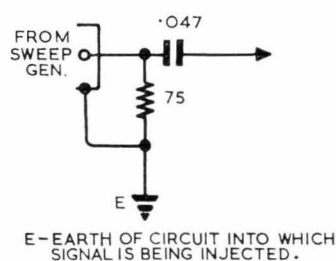

FIG. 3.
To align the vision IF amp, a sweep generator and a marker generator, both covering the range 28.5 to 38.5 Mc/s. are required, together with a display unit. The marker generator may be a signal generator and the display unit a C.R.O. These instruments should be interconnected as described in the instructions supplied with the sweep generator. The sweep generator should be terminated with a resistor equal to its output impedance and connected to the receiver as shown in Figure 3.
- (1) Connect the sweep generator via the network in Fig. 3 to pin 2 of V5. Adjust the slug in the IFT3 to peak response at 34 Mc/s. (Slug in position furthest from chassis) and L27 (slug nearest chassis) to achieve a symmetrical response as shown in curve "A." To remove any hole in the response, screw the slug in L25 away from